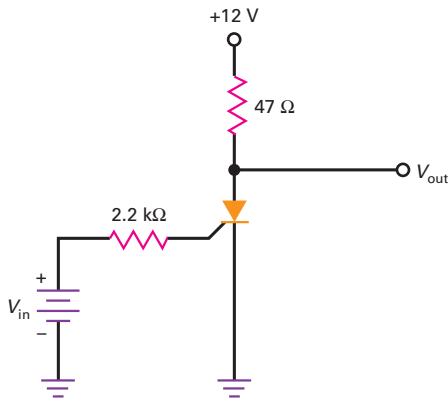

Figure 40-23
- 40.1 The SCR of Fig. 40-23 has $V_{GT} = 1.0$ V, $I_{GT} = 2$ mA, and $I_H = 12$ mA. What is the output voltage when
- 40.3** If the SCR of Fig. 40-23 has a gate trigger voltage of $1.5\ \text{V}$, a gate trigger current of $15\ \text{mA}$, and a holding current of $10\ \text{mA}$, what is the input voltage that triggers the SCR? The supply voltage that resets the SCR?